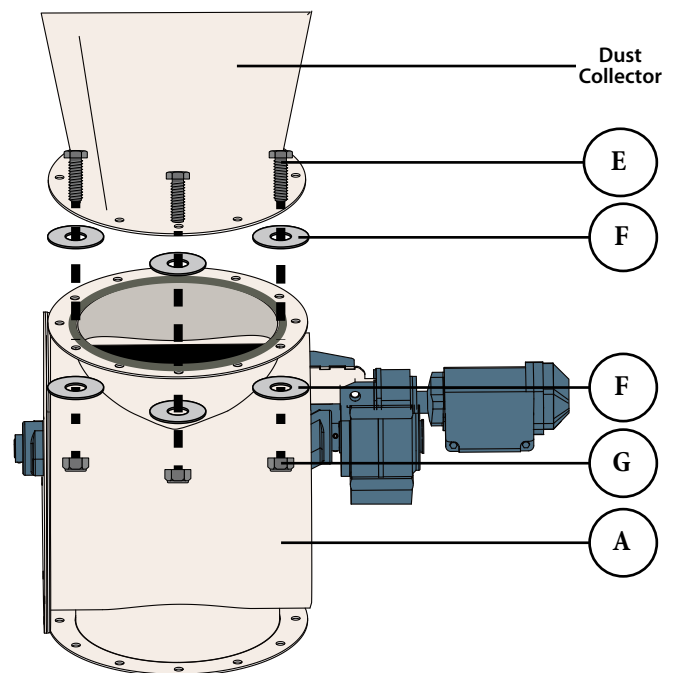

FIG. 10
- 10** Align the hole patterns on the Air Lock Assembly's (A) top flange to the bottom of your dust collector's cyclone separator. Secure with twelve 3/8"-16 x 1" Hex Head Bolts (E), twenty-four 3/8" Flat Washers (F), and twelve 3/8" Nylock Nuts (G). Tighten fully [FIG. 10].